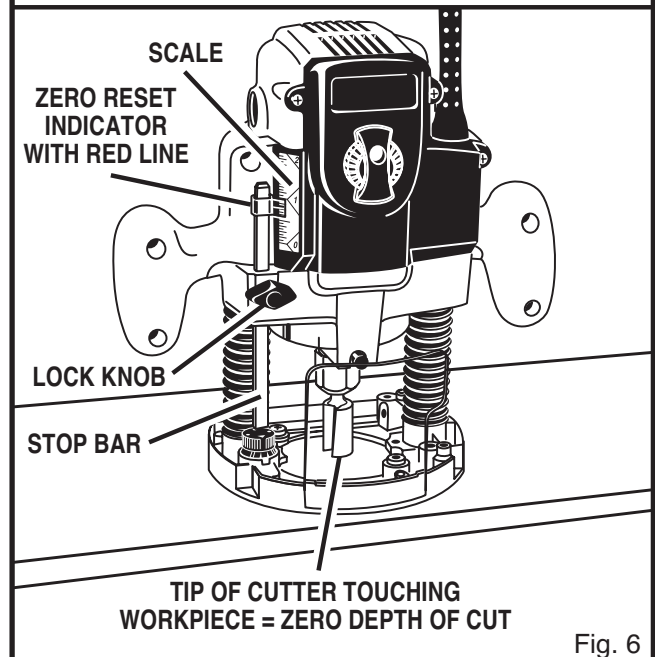

Fig. 6
- Lower router until tip of cutter barely touches flat surface. See Figure 6.